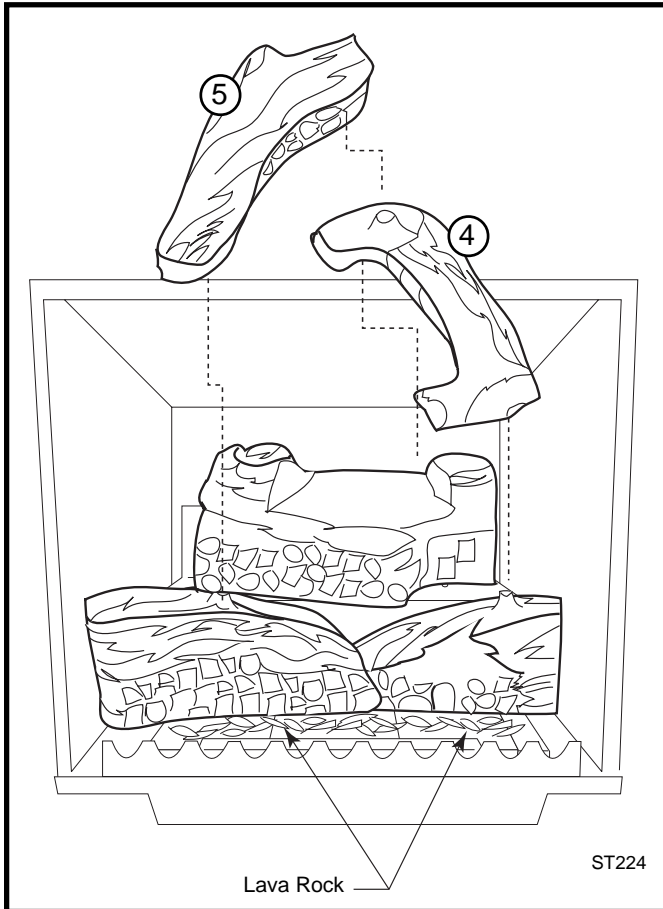

Fig. 15 Install lava rock and upper logs.
4. Loosely sprinkle the small package lava rocks directly on top of the burner between the decorative grate and the middle logs. Do not place any lava rocks behind the middle logs. (Fig. 15)
5. Engage the upper log (4) with the right middle log as shown in Figure 15. Swing the top end toward the rear of the firebox and rest on notch on top of rear log. (**NOTE:** This log will touch the back of the firebox.) Engage the top log (5) with the upper log and the left middle log. (Fig. 15)